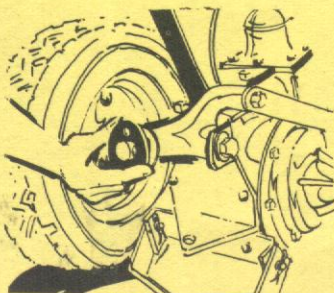

Figure 3
Step 4: Insert lift rod "B". Insert washer with hole over rod. Insert spring hook into washer hole (see Fig. 3).